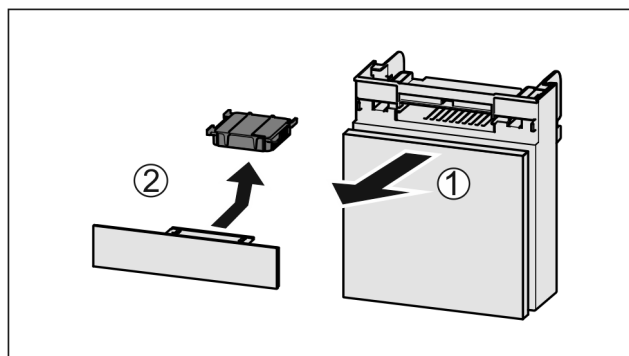

Fig. 127
- ▶ Pull out the compartment Fig. 127 (1).
- ▶ Remove the carbon filter Fig. 127 (2).